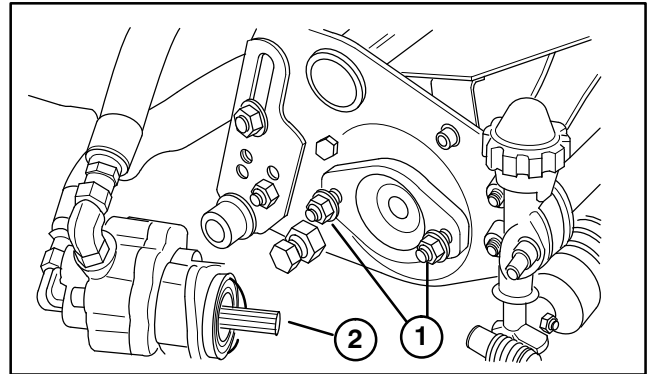

Figure 8
3. Assemble the mount nuts for the reel drive motor to each cutting unit. Leave approximately 1/2 in. of threads exposed on each mount stud (Fig. 8).
4. Remove the protective covers from the cutting units and the reel drive motor shafts. Coat the spline shaft of the motor with clean grease and install the motor by rotating the motor clockwise so the motor flanges clear the studs. Rotate the motor counterclockwise until the flanges are encircling the studs and tighten the mounting nuts (Fig. 8).